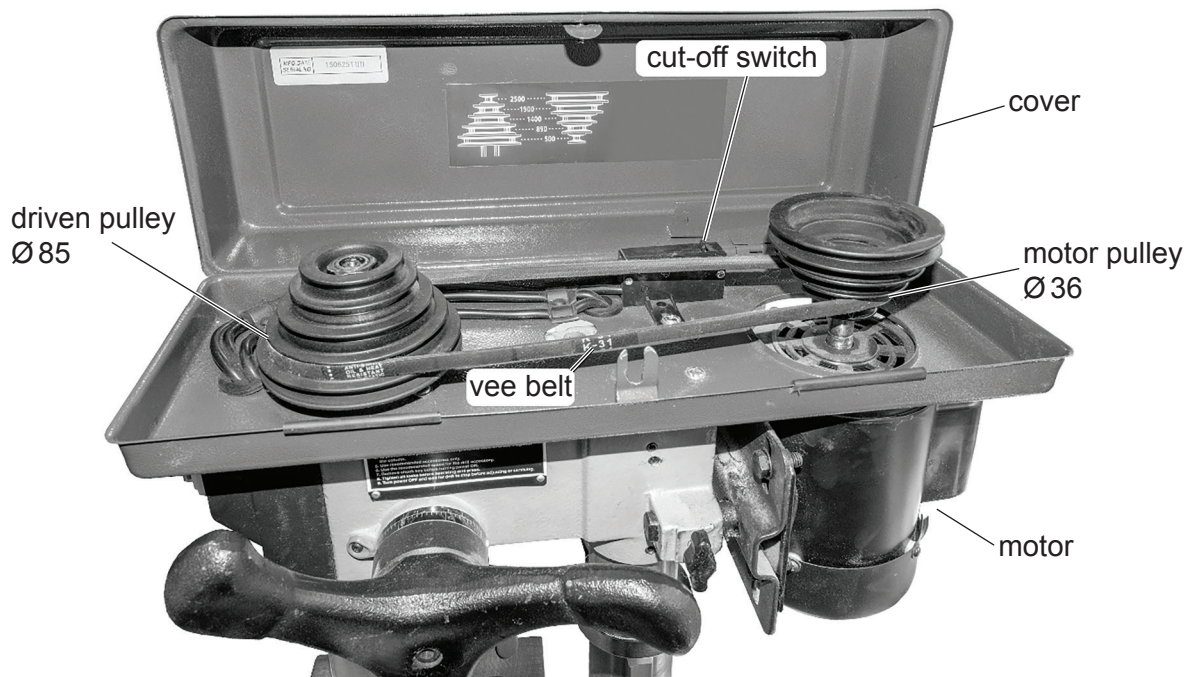

Fig. 10.4
- (c) Fig. 10.4 shows the drive components on a pillar drill.